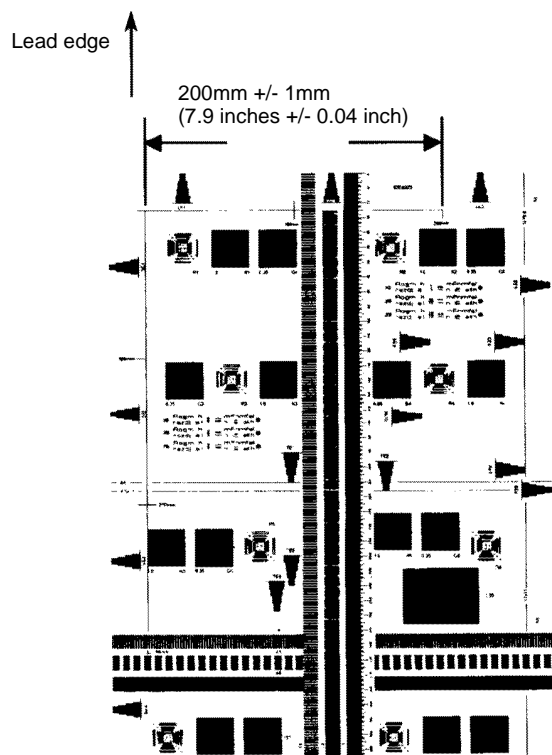

Figure 1 Cross process direction magnification
- a. To check the cross process direction magnification: measure the 200mm line running from near LE1 to near LE3. Check that the dimension is 200mm +/- 1mm (7.9 inches +/- 0.04 inch). Refer to Figure 1.